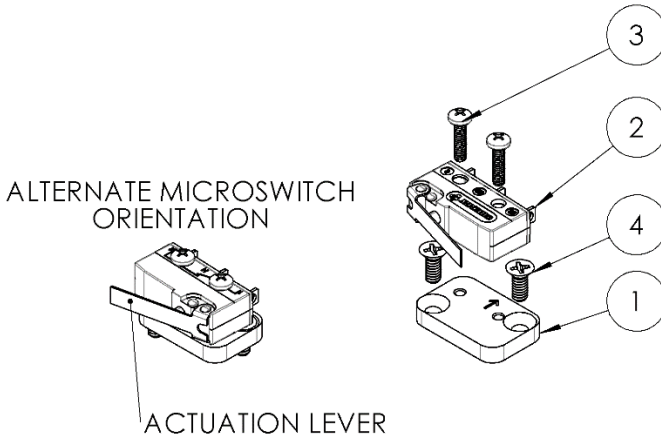
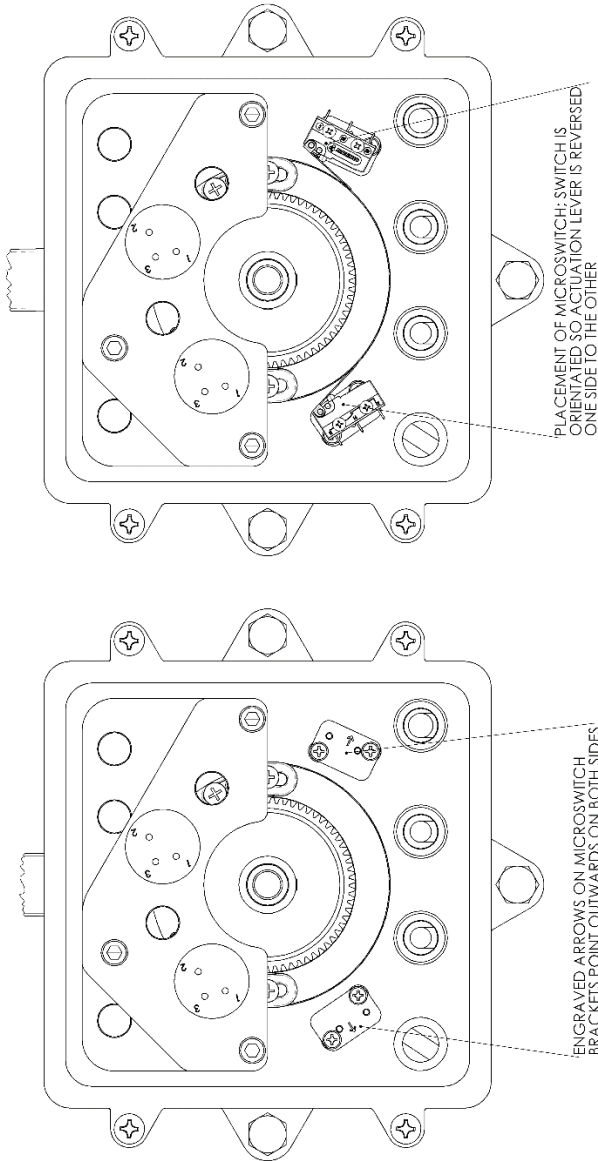
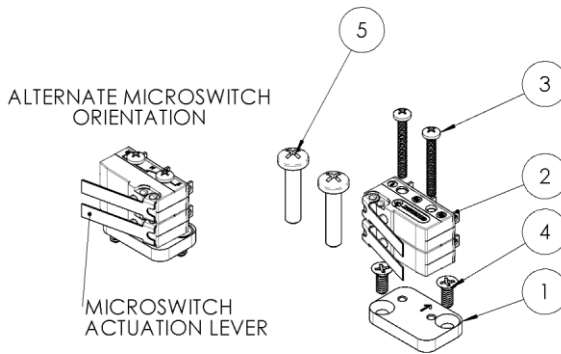
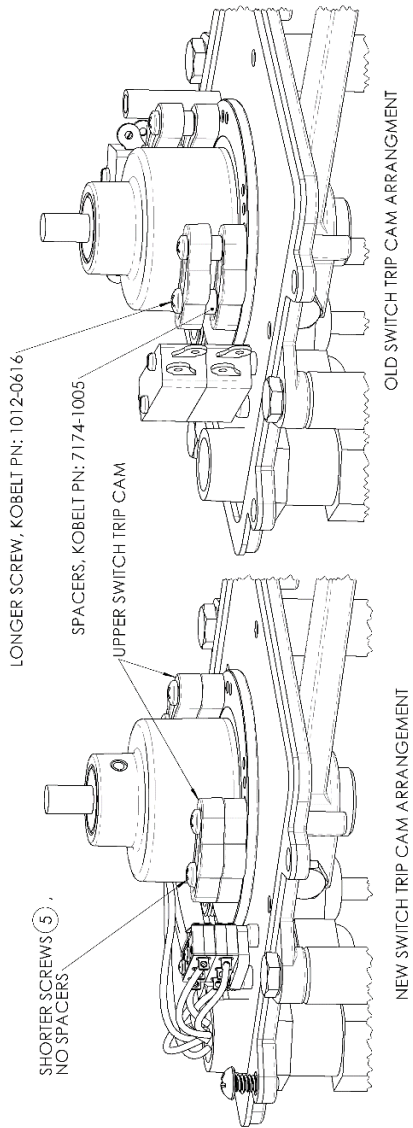

Figure 3: Microswitch retrofit kit, 7174-RF-01
Figure 5: Placement of microswitch and microswitch bracket, 7174-B shown.
Figure 7: Microswitch retrofit kit, 7174-RF-02
Figure 9: Arrangement of switch trip cams old microswitch and new microswitch
NOTICE	Before removing old microswitches, please ensure you have one retrofit kit for each side that has a microswitch being replaced. Review Figure 3 and Table 5 and compare to your retrofit kits to ensure the correct quantities of components are present.
4. Refer to Figure 5 and note the engraved arrow on the microswitch bracket ① is facing outwards on both sides of RFU.
5. Apply Loctite 242(Blue) to X2 Flat head screws ④.
6. Install bracket ① with screws ④ into the RFU cover plate, 7174-0002, ensuring the engraved arrow is correctly orientated.
7. Refer to Figure 5 and note the orientation of the microswitch ② for the side of the RFU that the microswitch is being replaced on.
8. Place the microswitch ② on top of the bracket ① orientating the microswitch so the actuation lever is as shown in Figure 5. For reference, the actuation lever is pointed to in Figure 3.
9. Apply Loctite 242(Blue) to X2 pan head screws ③.
10. Use X2 screws ③ and tighten to secure the microswitch ②.
NOTICE	Before removing old microswitches, please ensure you have one retrofit kit for each side that has a microswitch being replaced. Review Figure 7 and
8. Place the microswitches ② on top of the bracket ① orientating the microswitches so the actuation lever is as shown in Figure 5. For reference, the actuation lever is pointed to in Figure 7.
10. Use X2 screws ③ and tighten to secure the microswitches ②.
11. Review the old versus new arrangement of the switch trip cams shown in Figure 9.
14. Apply Loctite 242(Blue) to the shorter screws ⑤ included in the retrofit kit.
15. Replace the upper switch trip cam and secure with the shorter screws ⑤, leaving out the spacer.